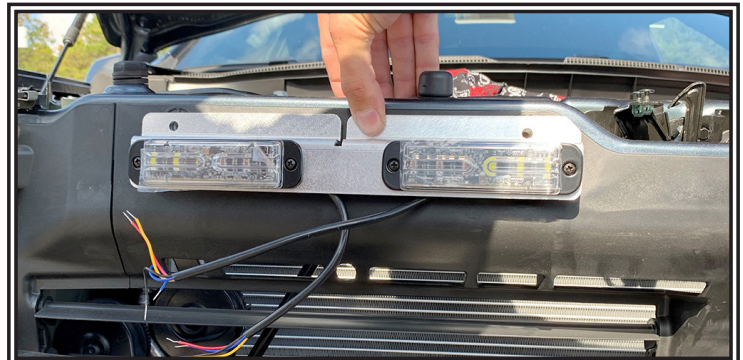

Figure 2
- Step 4.** Mount the desired light heads using the provided hardware as shown in Figure 2.